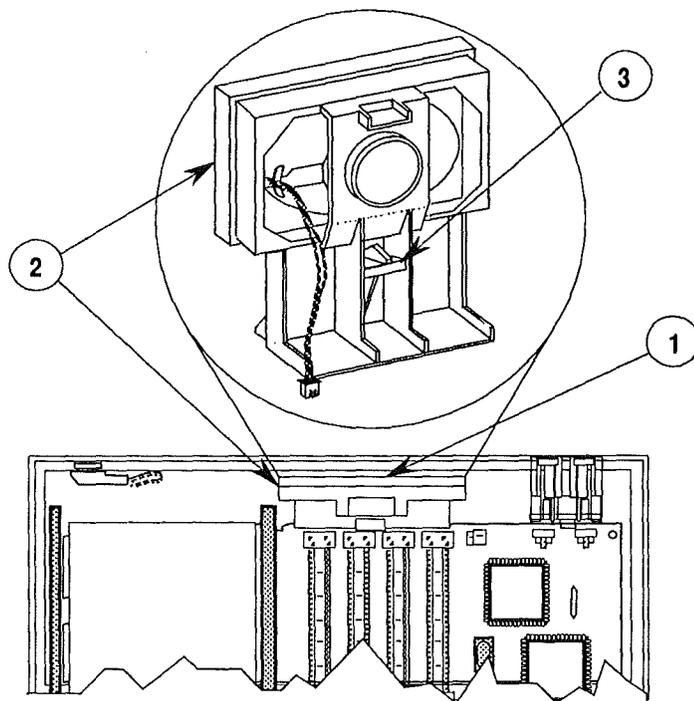

FIGURE 2
2. Find the speaker (Figure 2, #1) in the speaker bracket (Figure 2, #2) located at the front of the unit and pull out the two-wire connector going to the main logic board.
3. Gently lift up on the tab (Figure 2, #3) in the center of the bracket and at the same time pull back on the top of the speaker bracket until it comes loose from the bottom area.